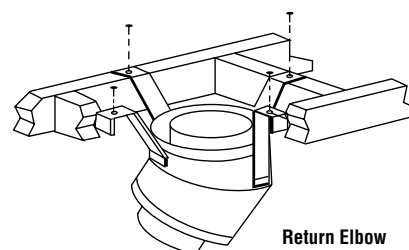

Figure 49
Step 5. Secure support straps to framing members by nailing under tension in shear (*Figure 49*).